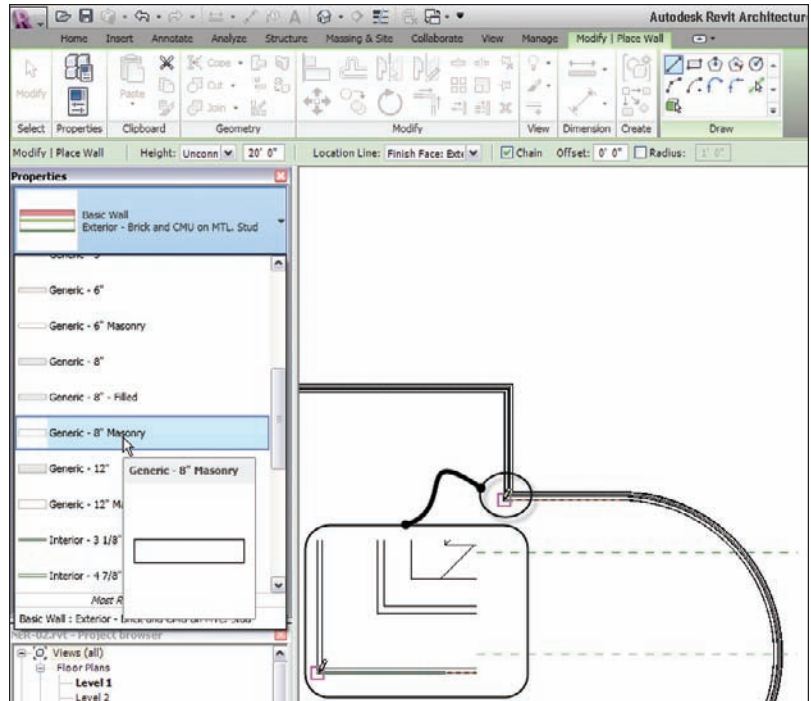

FIGURE 2.21 Start drawing the 8" CMU elevator shaft in the corner indicated here.
1. Zoom into the northeast corner of the building, as shown in Figure 2.21.
3. In the Properties dialog, select Generic - 8" Masonry, as shown in Figure 2.21.
4. For the starting point, pick the corner as shown in Figure 2.21. The wall will probably be in the wrong orientation, so if necessary, tap the spacebar to flip the wall's orientation.